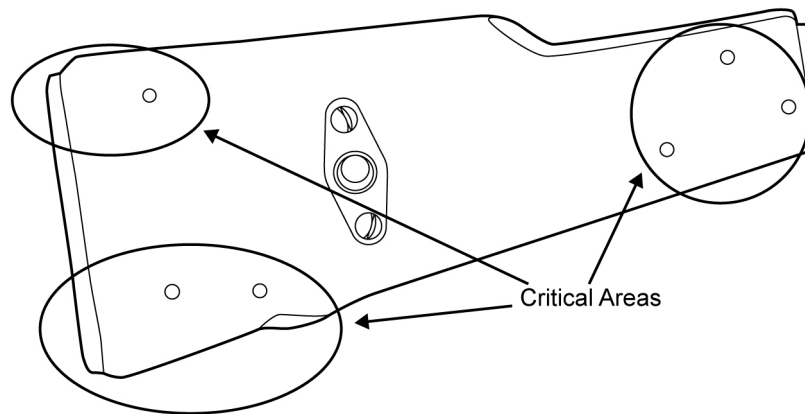

Figure 3. Critical Areas of the Buttstock.
- Check the fixed buttstock for cracks. Up to three cracks are acceptable. No cracks are acceptable in the critical areas (near pins and screws). Refer to Figure 3. Replace the buttstock if defective.